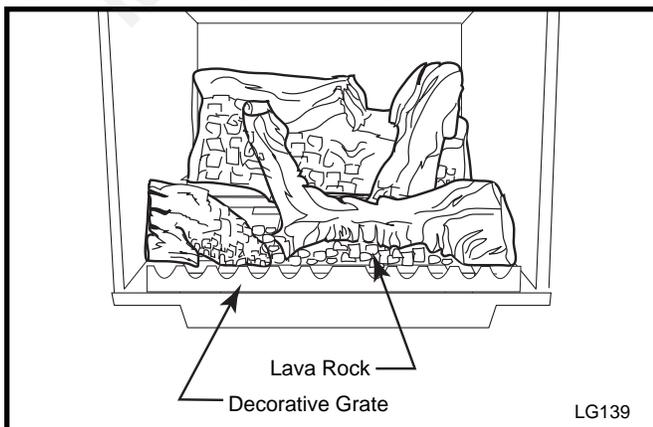

Fig. 52 Place lava rock on burner.
4. Sprinkle lava rock on burner in front of, and between, left and right logs. (Fig. 52)